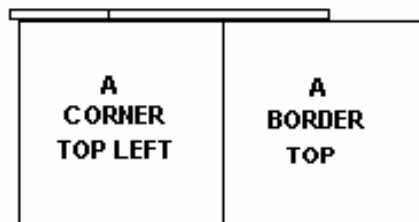

Figure 5
5. Next take a transition and lock the “A CORNER TOP LEFT” and the “A BORDER TOP” panels together. Transitions use the same locking method as panels and lock right to left or up and down. Transitions lock two panels together except for corners. **Each corner will have one short and on tapered transition.** (Figure 5).